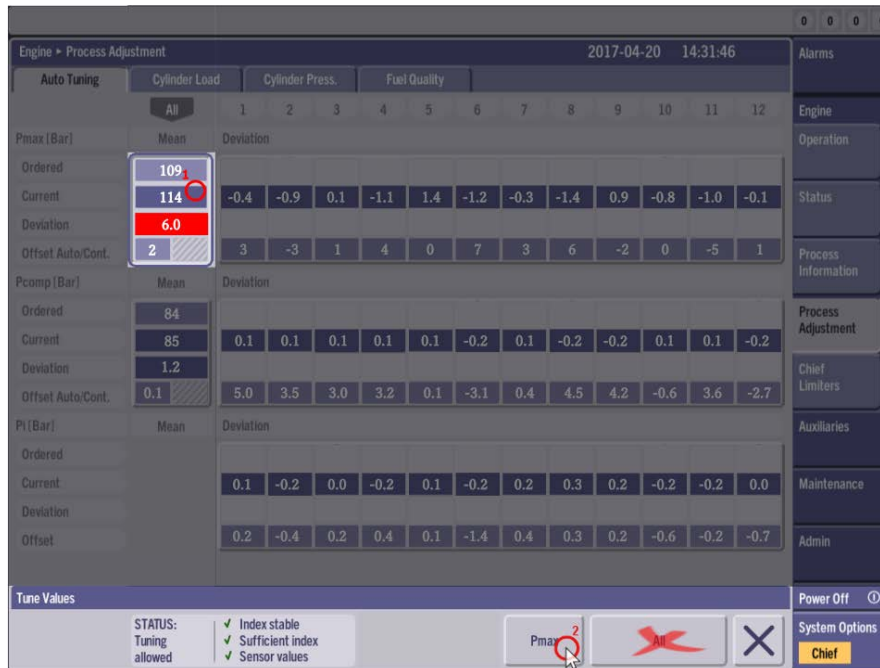

Figure 17 - Mean Adjustment P_{Max}
6. Mean adjustment of P_{max} (Figure 17)